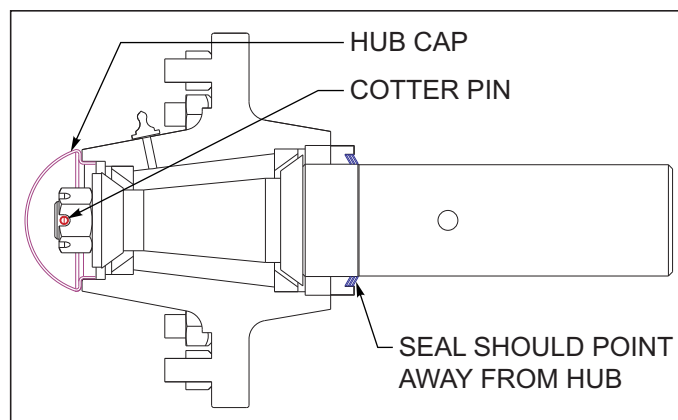

Figure 5-1: Triple Lip-Seal
The triple-lip seals should point away from the hub to keep contaminants out and allow grease to pass **See Figure 5-1.**
1. Install a new cotter pin and replace the hub cap. **See Figure 5-1.**